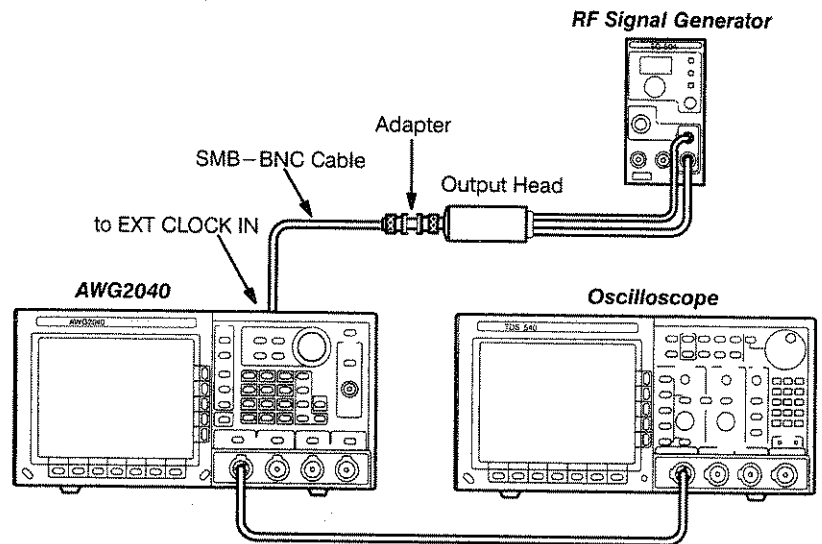

Figure E-21: External CLOCK IN Initial Test Hookup
- b. *Hook up RF signal generator:* Connect the AWG2040 rear-panel **EXT CLOCK IN** connector through an adapter (BNC female–female) and a coaxial cable (SMB–BNC) to the output head of the RF signal generator (see Figure E-21).